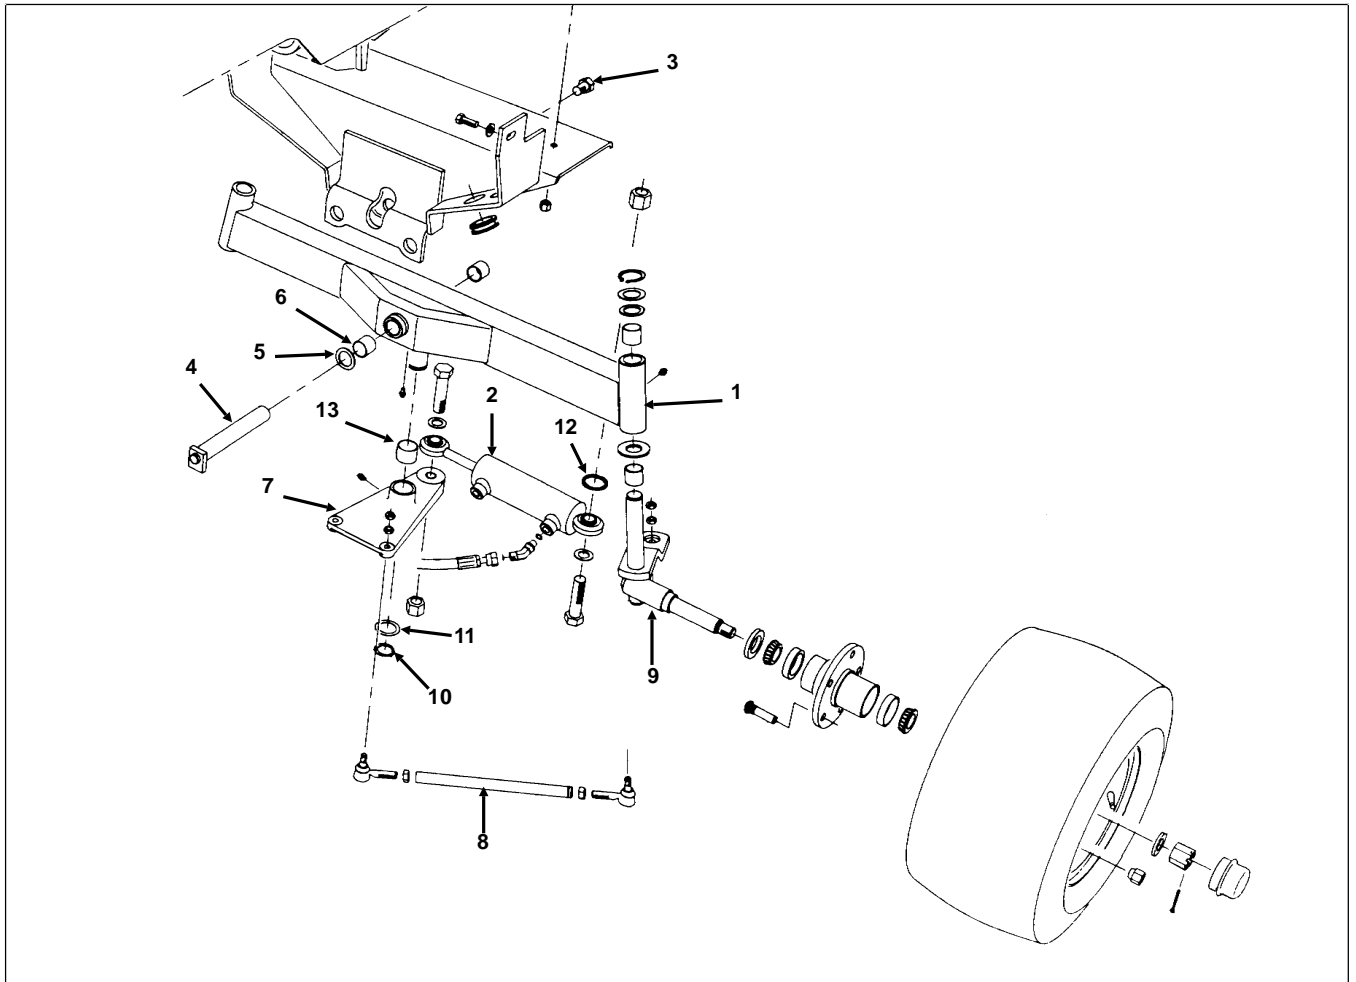

Figure 16
2. Remove the cap screw securing the end of the axle pin to the chassis (Fig. 16).
1. Remove the lock nut and cap screw securing the steering cylinder rod end to the steering pivot (Fig. 16).
2. Remove two (2) nuts to disconnect the tie rod end from the spindle arm. Inspect all tie rod end ball joints for wear or damage and replace as necessary.
7. Connect the tie rod end to the spindle bracket with one (1) nut. Tighten the nut to a torque of 25 - 33 ft-lb. Install the jam nut and tighten against the other nut to secure tie rod end.